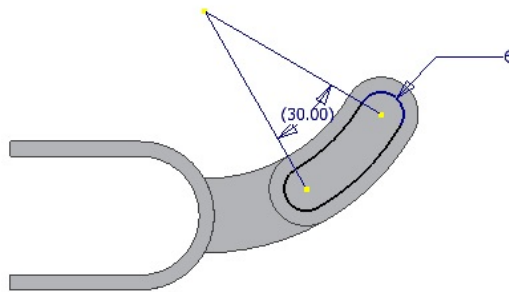

Figure 7-52 Sketch of the cut feature
5. Specify a new sketch plane on the front face of the second join feature and then create the sketch of the cut feature on this plane. If required, you can project the existing sketch. You can offset and dimension the reference entities to create the sketch of the cut feature, as shown in Figure 7-52.